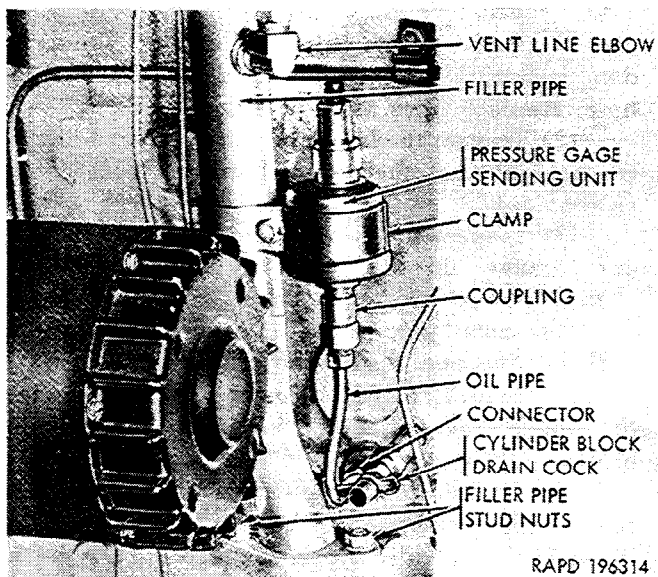

Figure 2-89. Oil filler pipe and oil pressure gage sending unit.
- (1) Loosen the generator adjusting arm bolt, remove the fan belt from the pulley on the generator, and move the generator away from the engine as far as possible.
- (2) Disconnect the filler pipe vent line from the elbow in the oil filler pipe (fig. 2-89).
- (3) Remove the nut, lockwasher, and bolt that secure the two oil pressure gage sending unit clamps, and remove the clamps from the filler pipe.
- (4) Remove the nuts and lockwashers from the filler pipe studs in the cylinder block and
(1) Inspect the filler pipe for cracks, damaged flange surface, and damaged threads in the vent line elbow opening. Replace a damaged filler pipe.
(2) Inspect the filler pipe cap and cap gasket for damage. Replace the cap and / or gasket as required.
(3) Inspect the studs in the cylinder block for looseness or damaged threads. Tighten loose studs; replace damaged studs.
(4) Inspect the elbow (vent line) for cracks or damaged threads.
k. Install Oil Filler Pipe (Fig. 2-89).
l. Remove Oil Pressure Gage Sending Unit and Oil Line (Fig. 2-89).
(1) Disconnect the sending unit cable from the oil pressure gage sending unit.
(2) Move the generator (*i* (1) above) to provide access to the parts.
(3) Disconnect the sending unit oil line from the coupling on the oil pressure gage sending unit.
(4) Remove the sending unit clamp nut, lockwasher, and bolt, and remove the clamp. Remove the sending unit.
(5) Disconnect the sending unit oil line from the connector in the cylinder block and remove the oil line. Remove the connector from the cylinder block.
(6) Remove the coupling from the sending unit.
(1) Inspect the coupling, the connector, the sending unit oil line, and nuts for cracks, damaged threads or restrictions. Replace parts as required.
(2) Inspect the oil pressure gage sending unit for damage, worn threads, and corrosion at the cable connector. Replace the sending unit if necessary.
n. Install Oil Pressure Gage Sending Unit and Oil Line (fig. 2-89).
(1) Install a tube connector in the cylinder block opening.
(2) Install the pipe coupling on the oil pressure gage sending unit.
(3) Connect the sending unit oil line to the connector in the cylinder block.
(4) Install the sending unit on the oil line and tighten the nuts.
(5) Position the clamp (two-halves) on the filler pipe and the sending unit, and install the bolt, lockwasher, and nut. Tighten the nut.
(6) Install the fan belt on the generator pulley and adjust the fan belt (para 2-96 a).
(7) Connect the sending unit cable to the sending unit.